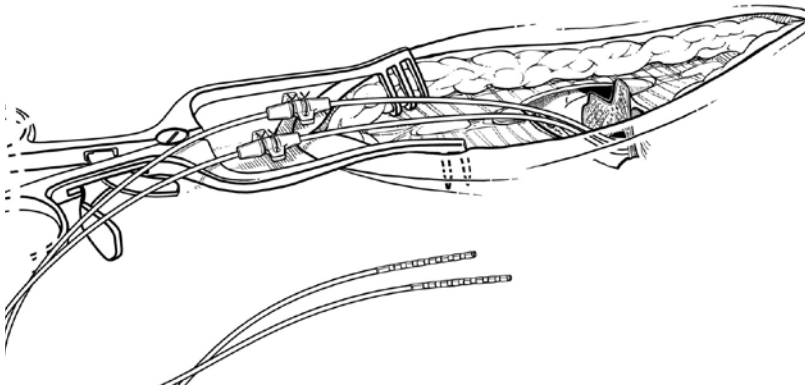

FIGURE 34
- 3 Leaving enough slack in the lead body to create a strain relief loop between the lead paddle and the anchor, secure an anchor to each lead by tying ligatures (use 2-0 nonabsorbable suture) around the grooves in the middle of the anchor (FIGURE 34).